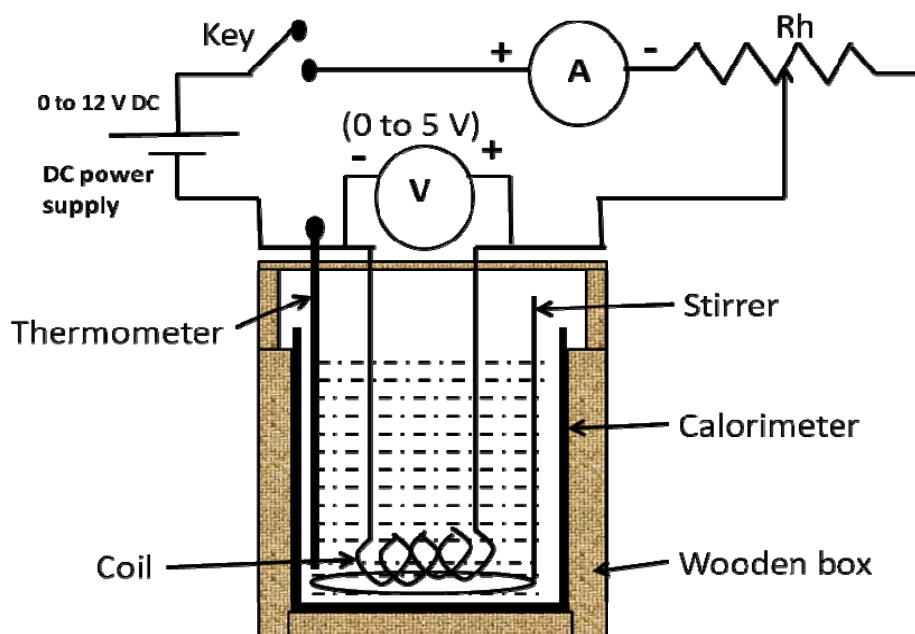

Fig.01
- Connect the circuit as shown in Fig.01.
- Adjust the current (I) to a desired value (say I=1.5A) using rheostat.
- Note down the corresponding voltage (V).